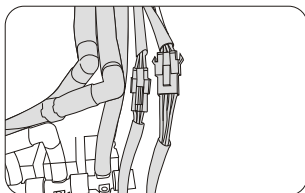

Figure 9
- Connect the joint of air pipe and power cord (note: there's marks on the air pipe and size of cable connectors is different, you won't miss it). (figure 9)